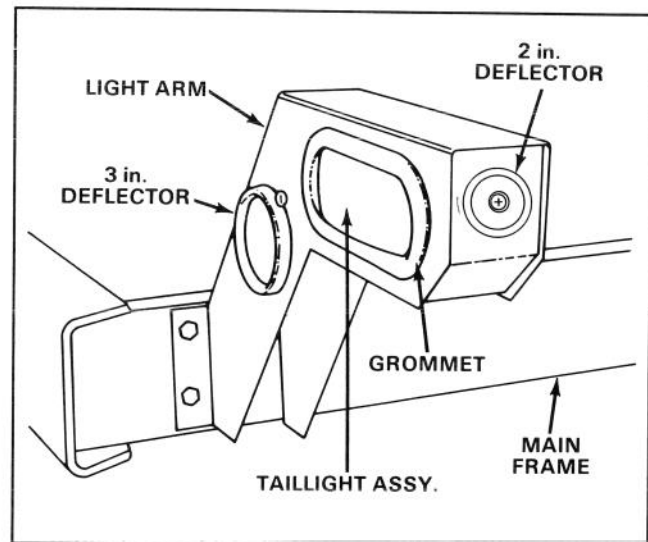

Figure 12
1. Insert a 10-24 x 1/2 in. machine screw through the 2 in. red reflector, mount to the outer end of each arm and secure to arms with a keps nut (Fig. 12).
2. From inside each arm install a 3 in. red reflector into each mounting hole and secure the assemblies to the arms with 10-24 x 1/2 in. machine screws and keps nuts (Fig. 12).
3. From the outside of each arm, install a grommet into each mounting hole for the tail lights (Fig. 12).
4. Insert a tail light into each grommet (Fig. 12).
5. Align each arm with the frame mounting holes and secure to the frame with hex head flange screws, lock washers and hex nuts (Fig. 12).